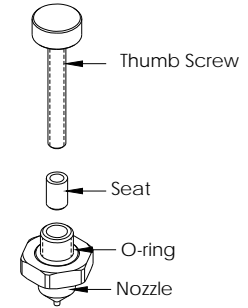

Figure 4.0
7.4 Seat Replacement (See Fig. 4.0)